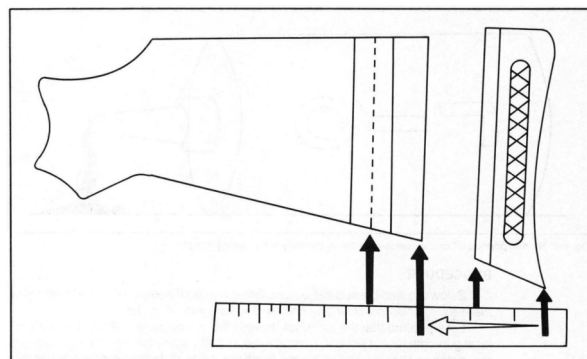

Fig. 6-9. Transferring measurement from pad to stock.
1. Measure the thickness of the recoil pad with the flexible rule (or other measuring device), and note this distance on the butt. Wind a layer of masking tape around the stock at about this point. The tape will allow you to see the line you are about to draw and will help keep finish from peeling during sawing. Mark the distance on the tape and draw a line on the cheekpiece side of the stock parallel to the existing buttplate (Fig. 6-9). If the buttplate is curved, transfer the measurements at the top and bottom of the stock. Draw a line connecting the two marks. The resultant line will approximate the original "feel" of the stock when the job is done. Figure 6-10 shows the measurement transferred to the stock.